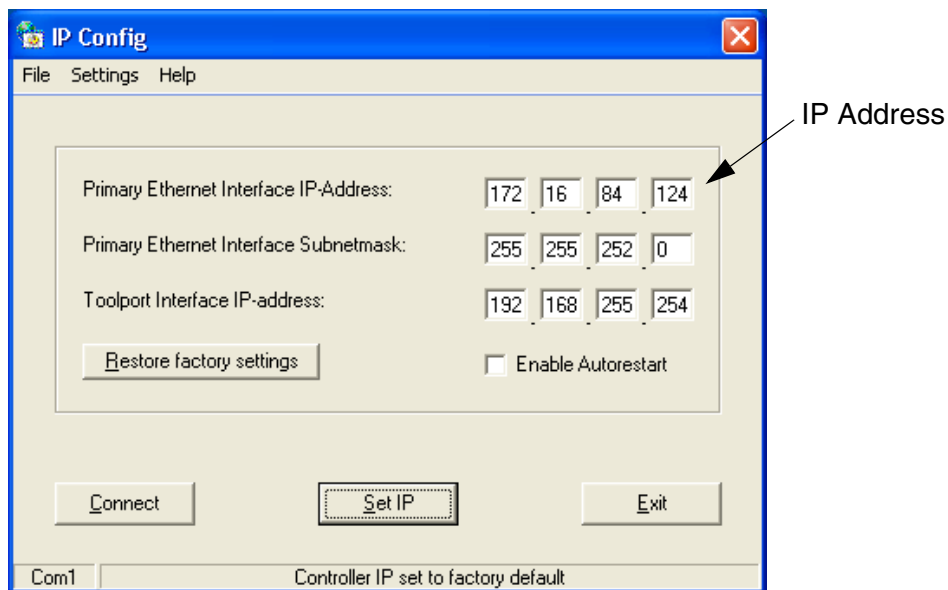

Figure 57. IP Config window for setting unique IP address
- Enter a unique IP address (obtainable from the Control Network Administrator). Example: 172.16.84.124, see Figure 57.